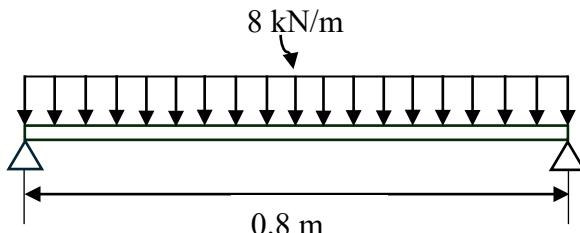

Figure 3(c) / Rajah 3(c)
- c) A 0.8 m long T shape beam supports a uniformly distributed load of 8 kN/m as illustrated in figure 3(c). Given the Young's Modulus,  $E = 80 \text{ GPa}$  and the second moment of area,  $I = 1.51 \times 10^{-6} \text{ m}^4$ . Determine: